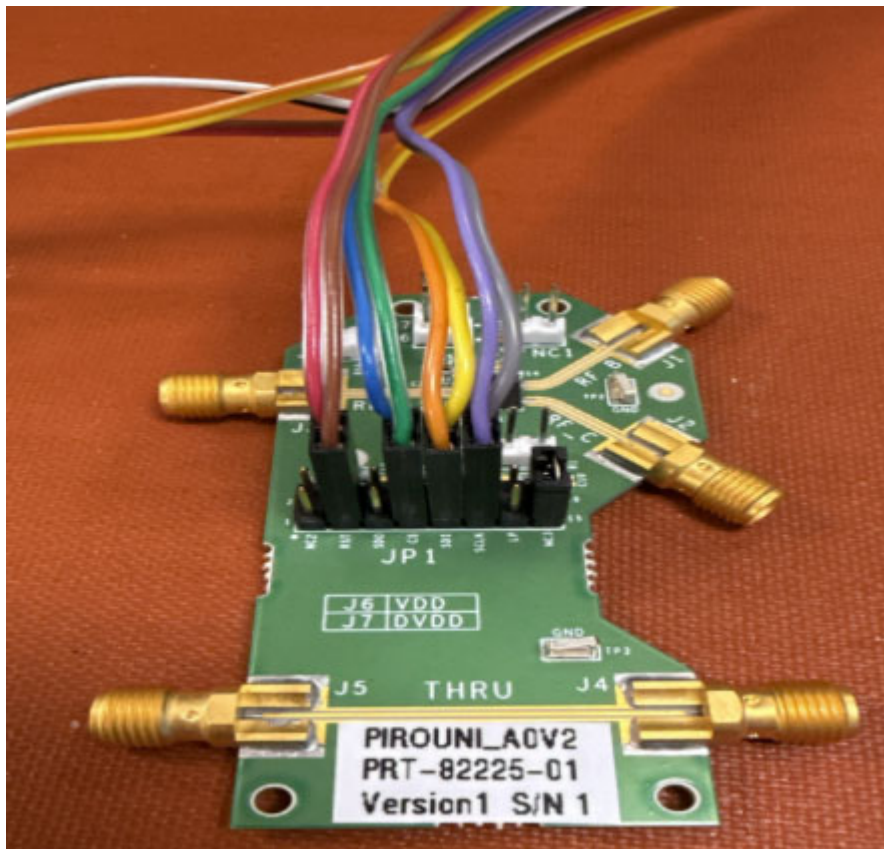

Figure 7. Connect the External Power Supplies and Ribbon Cable to the PE44951 Evaluation Board
2. Connect the ribbon cable to JP1 on the evaluation board, as shown in Figure 7.